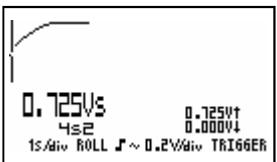

Fig 61
- ‘roll’ = roll mode (fig. 61)
- ‘roll’ = rolmode (fig. 61)
- ‘roll’ = mode ‘roll’(fig 61)
- ‘roll’ = Rollmodus (fig 61)